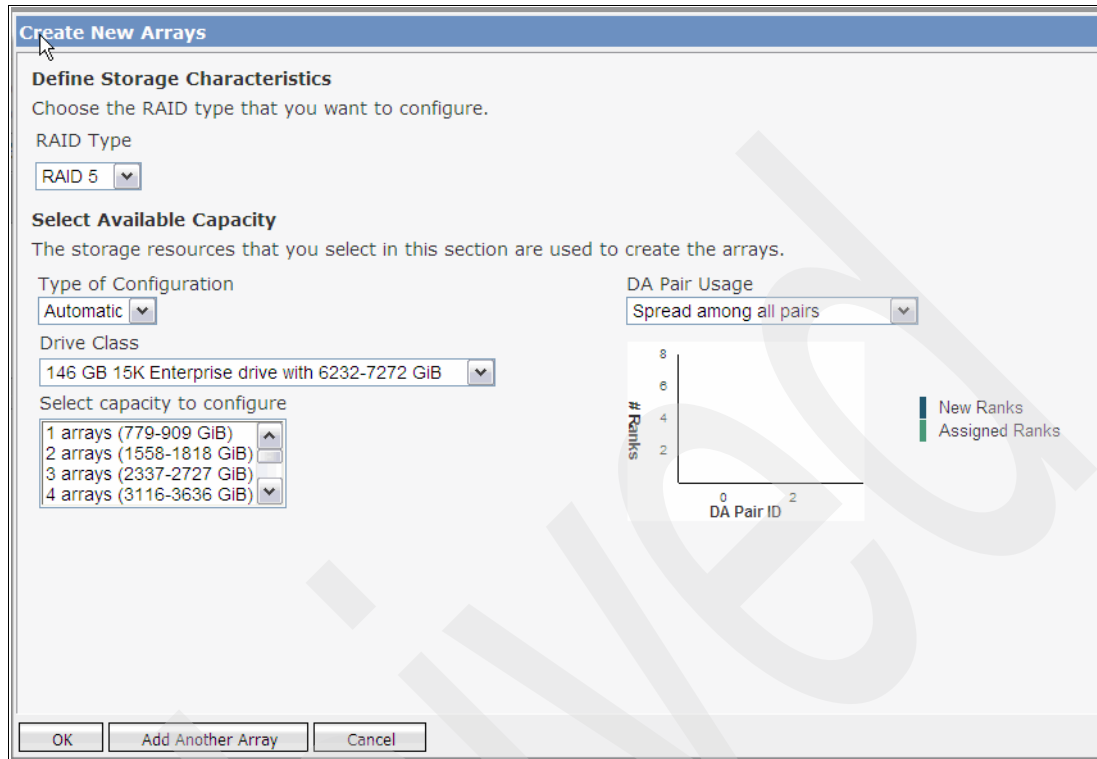

Figure 13-24 Create New Arrays window
7. The Create New Arrays window opens, as shown in Figure 13-24.